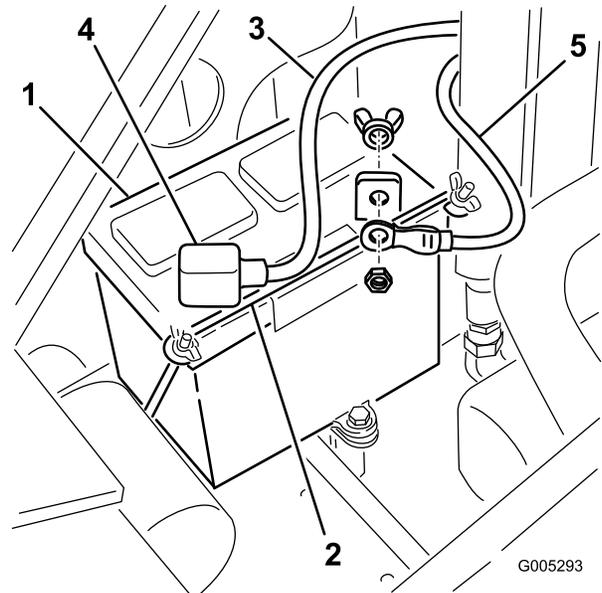

Figure 31
4. Remove the wing nuts and bar securing the battery (Figure 31).
5. Disconnect the negative (black) ground cable from the battery post (Figure 31). Retain the fasteners.
7. Disconnect the positive (red) cable from the battery post (Figure 31). Retain the fasteners.
- Using the fasteners previously removed, install the positive (red) battery cable to the positive (+) battery terminal (Figure 31).
- Using the fasteners previously removed, install the negative (black) battery cable to the negative (-) battery terminal (Figure 31).
- Secure the battery using the bar and wing nuts (Figure 31).